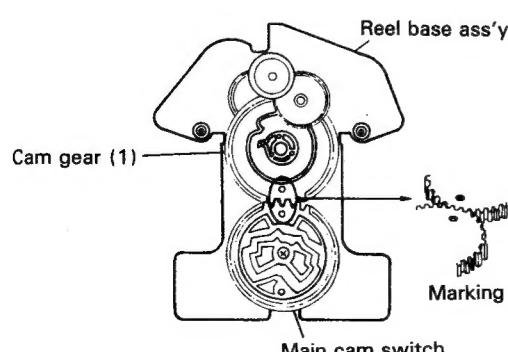

Fig. 8
1. Remove two screws ⑦ and five screws ⑧ securing the reel base.
- \* Reassembling the cam gear (Fig. 8)